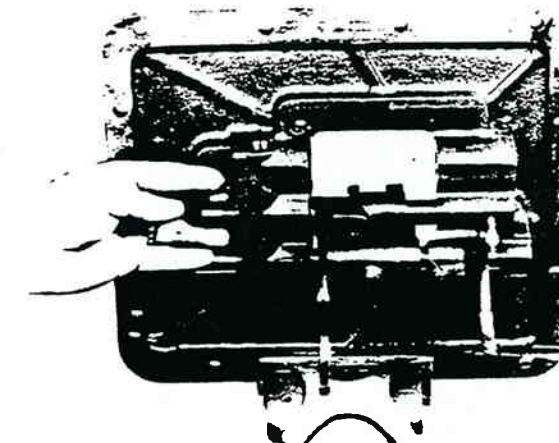

Figure 13-171. 2nd-3rd Shift Bar Installed.
5. Install the 2nd-3rd speed shifting bar in center bore in housing and install shift yoke, long hub to the rear. At the same time install interlock pin in bore in neutral notch of bar as notch enters front boss (figure 13-171).